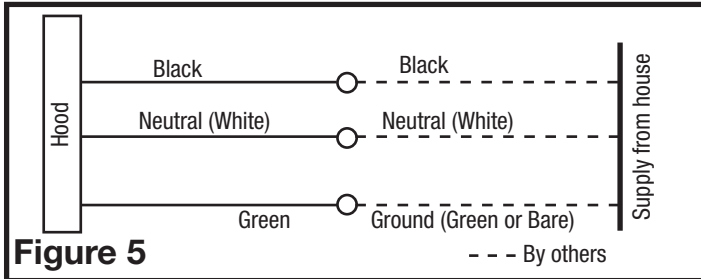

Figure 5
- 3 Examine the wire compartment cover and select the most convenient wire entrance and remove the knock out. Feed the supply wire through the opening and install an appropriate strain relief. Connect the white wire from the power unit to the white wire from the supply. Connect the black wire from the power unit to the black wire of the supply. Connect the ground wire from the home (green or bare) to the ground wire of the power unit (green or green/yellow). Use approved methods for all connections (Figure 5).